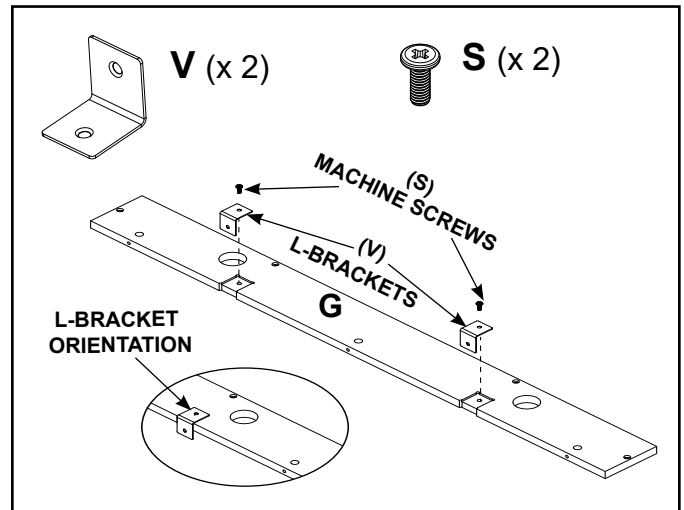

Figure 13
- Install two (2) L-Brackets (V) using two (2) M6 X 15 screws (S) on part “G”. See Figure 13.